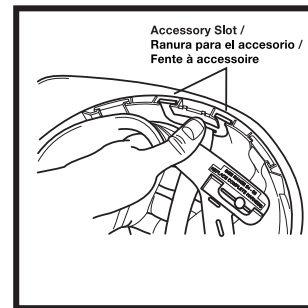

Figure 3
- For 6-point suspensions take one of the two double clips on each side of the center of the suspension and push it into the slots on each side of the accessory slot inside the shell (Figure 3). Repeat for opposite side.